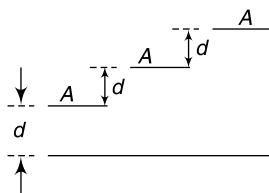

Fig. 2.39 Three plates parallel to a common plate
2.27 Three plates are held parallel to a common plate (Fig. 2.39). A is the area in m^2 for each of the three parallel plates, while d metre is the distance between each pair of plates. What is the equivalent capacitance?